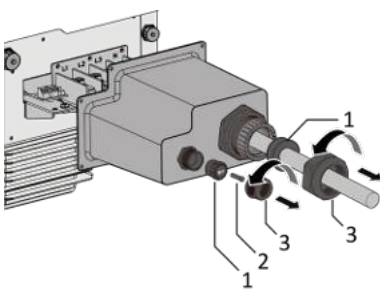

Fig. 37. AC/COM Cable fitting
2. Unfasten the cable fitting (see Fig. 37).